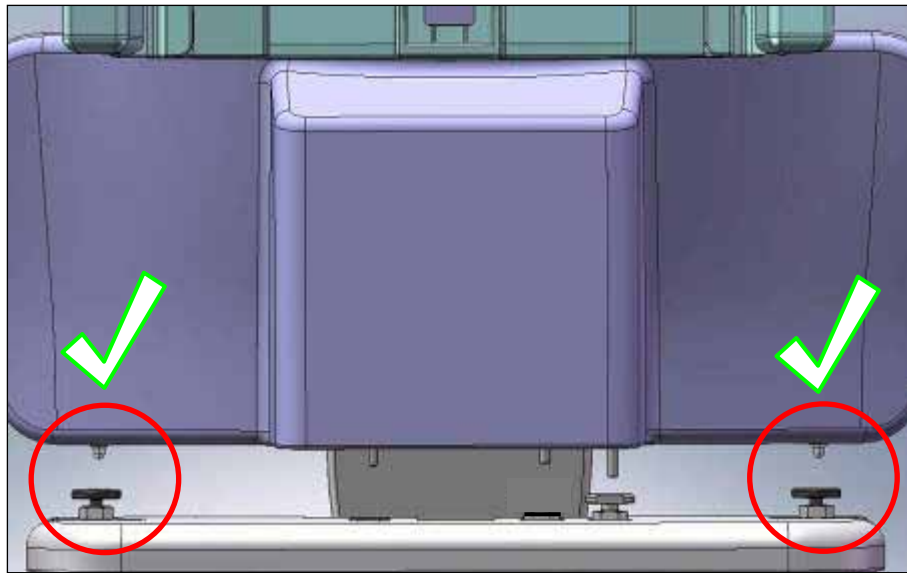
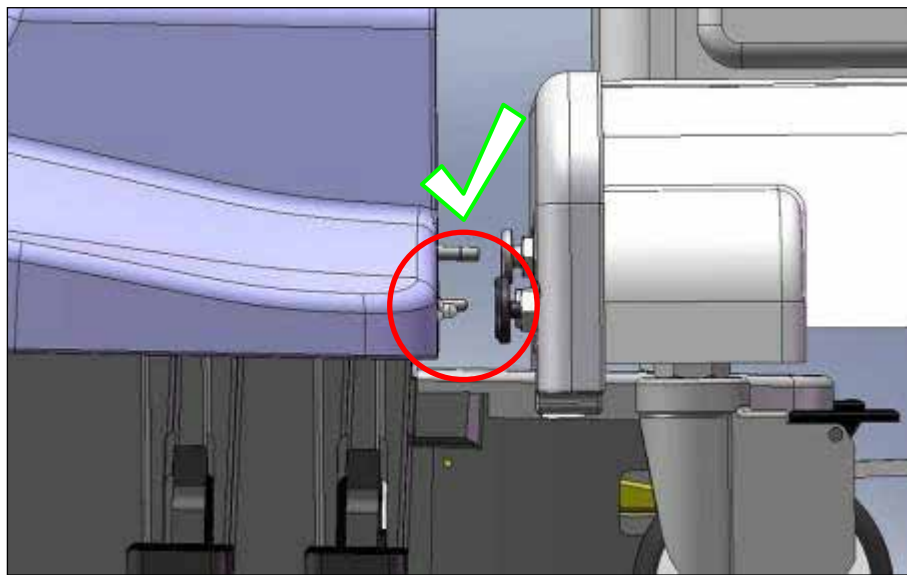

Figure 40
Figure 41
5. Centre the bumper horizontally while looking from above (Figure 40), then centre one side vertically while looking from the side (Figure 41). Tighten the outermost screw so the bumper will rotate about this point and then centre the other side vertically. After the bumper is centered, firmly tighten the four socket head cap screws to secure the bumper plate to the stretcher using a ¼" Allen key, supporting it to ensure it